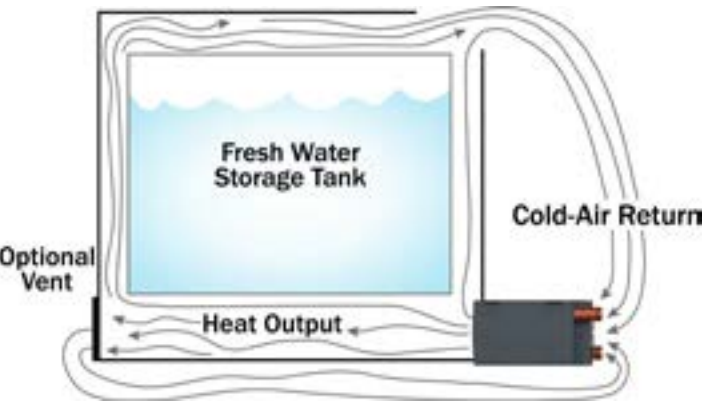

Figure 21
- If a heat exchanger is kept in the fresh water storage bay, then the last heat exchanger in the coolant loop should be used. See Figure 21.